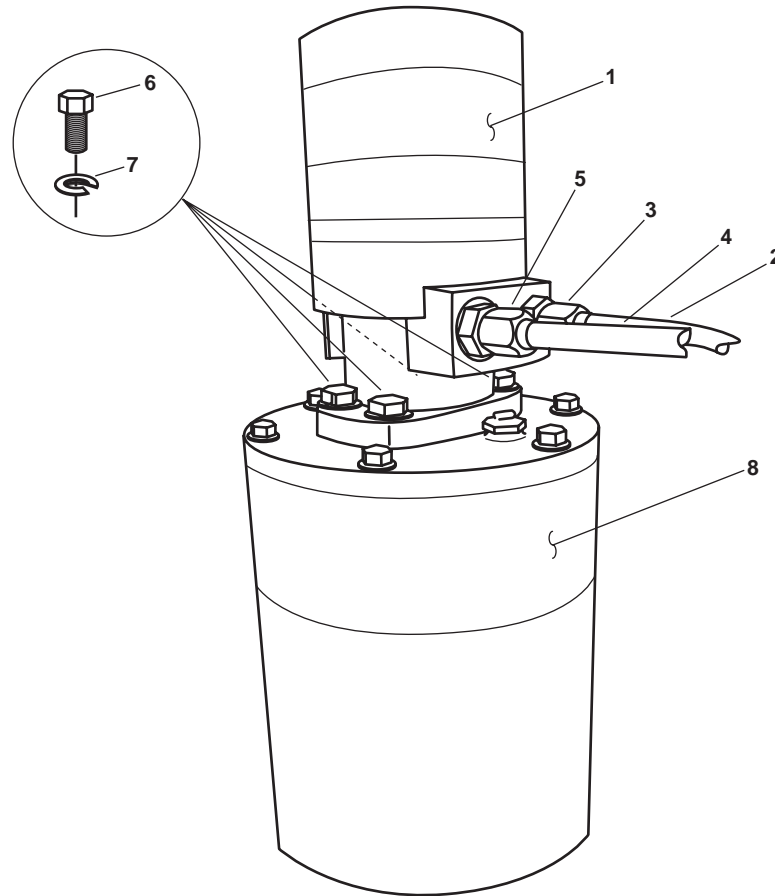

Figure 1. Swing Motor
1. Place a suitable drain pan under the swing motor (figure 1, item 1).
2. Slowly release the hydraulic fluid pressure in the hydraulic fluid return tubing (figure 1, item 2) by loosening the hydraulic fluid return fitting (figure 1, item 3). Do not remove the hydraulic fluid return tubing until all the hydraulic pressure has been released.
3. Remove the hydraulic fluid return tubing (figure 1, item 2) from the swing motor (figure 1, item 1). Drain any remaining hydraulic fluid into the suitable drain pan. Place an identification tag or label on the hydraulic fluid return tubing and cover it with a clean rag to prevent foreign material from entering the hydraulic system.
4. Slowly release the hydraulic fluid pressure in the hydraulic fluid supply tubing (figure 1, item 4) by loosening the hydraulic fluid supply fitting (figure 1, item 5). Do not remove the hydraulic fluid supply tubing until all the hydraulic pressure has been released.
5. Remove the hydraulic fluid supply tubing (figure 1, item 4) from the swing motor (figure 1, item 1). Drain any remaining hydraulic fluid into the suitable drain pan. Place an identification tag or label on the hydraulic fluid supply tubing and cover it with a clean rag to prevent foreign material from entering the hydraulic system.
6. Remove the four bolts (figure 1, item 6) and the four lockwashers (figure 1, item 7) from the swing motor (figure 1, item 1). Discard the lockwashers.
7. Remove the swing motor (figure 1, item 1) from the brake and reduction gear unit (figure 1, item 8).
1. Install the swing motor (figure 1, item 1) on the brake and reduction gear unit (figure 1, item 8).
2. Install the four bolts (figure 1, item 6) and four new lockwashers (figure 1, item 7) in the swing motor (figure 1, item 1).
3. Connect the hydraulic fluid supply tubing (figure 1, item 4) to the swing motor (figure 1, item 1).
4. Connect the hydraulic fluid return hose (figure 1, item 2) to the swing motor (figure 1, item 1).